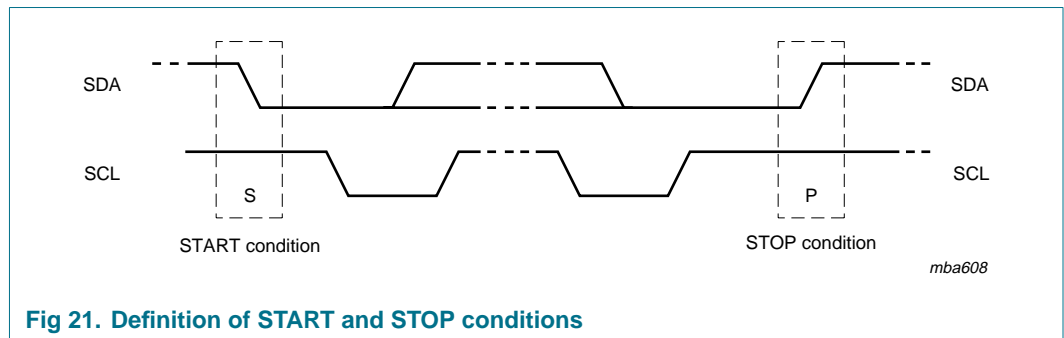

Fig 21. Definition of START and STOP conditions
Both data and clock lines remain HIGH when the bus is not busy. A HIGH-to-LOW transition of the data line while the clock is HIGH is defined as the START condition (S). A LOW-to-HIGH transition of the data line while the clock is HIGH is defined as the STOP condition (P) (see Figure 21.)